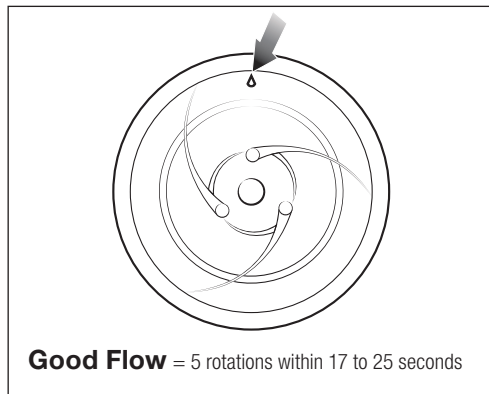

Figure 6. Wheel Speed Indicator
4. Locate the wheel speed indicator on the **right** wheel (Figure 6).